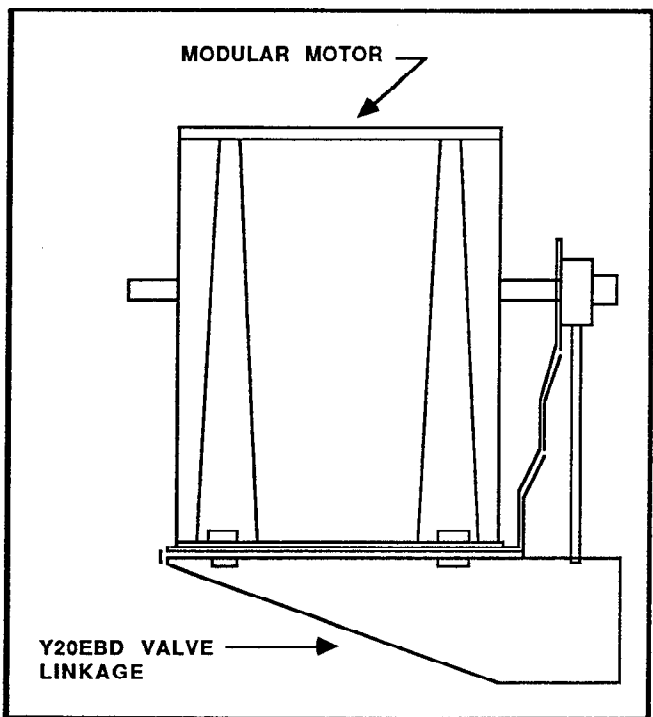

FIGURE 23. MOUNTING MMR TO JOHNSON Y20EBD VALVE LINKAGE
3. Take the mounting bracket (See Figure 23) and mount the Johnson gear housing on the formed side of the mounting bracket. Do Not Tighten.